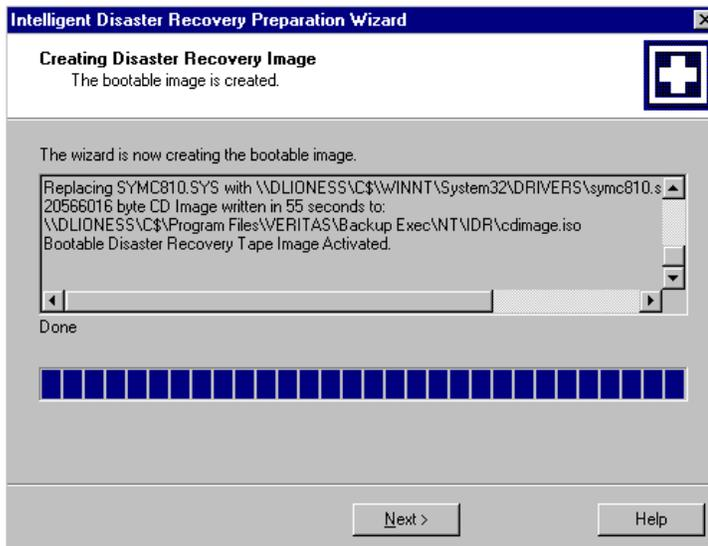

Figure 5: Image creation complete dialog
- Figure 5 shows a progress meter which will notify you when the bootable image creation is complete. Click Next to continue.